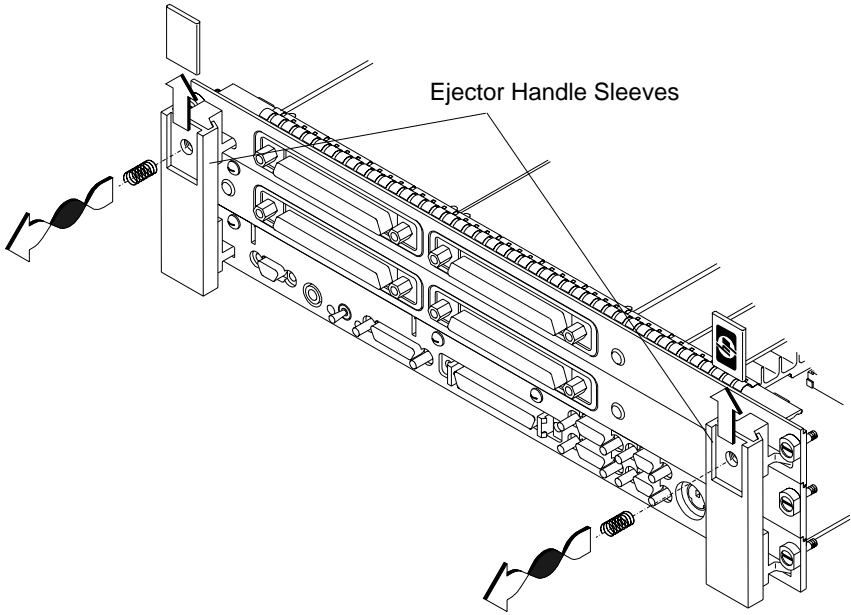

Figure 5-6 Removing the Labels and Springs
- 1 Remove the ejector handle sleeve labels and springs, as shown in Figure 5-6.